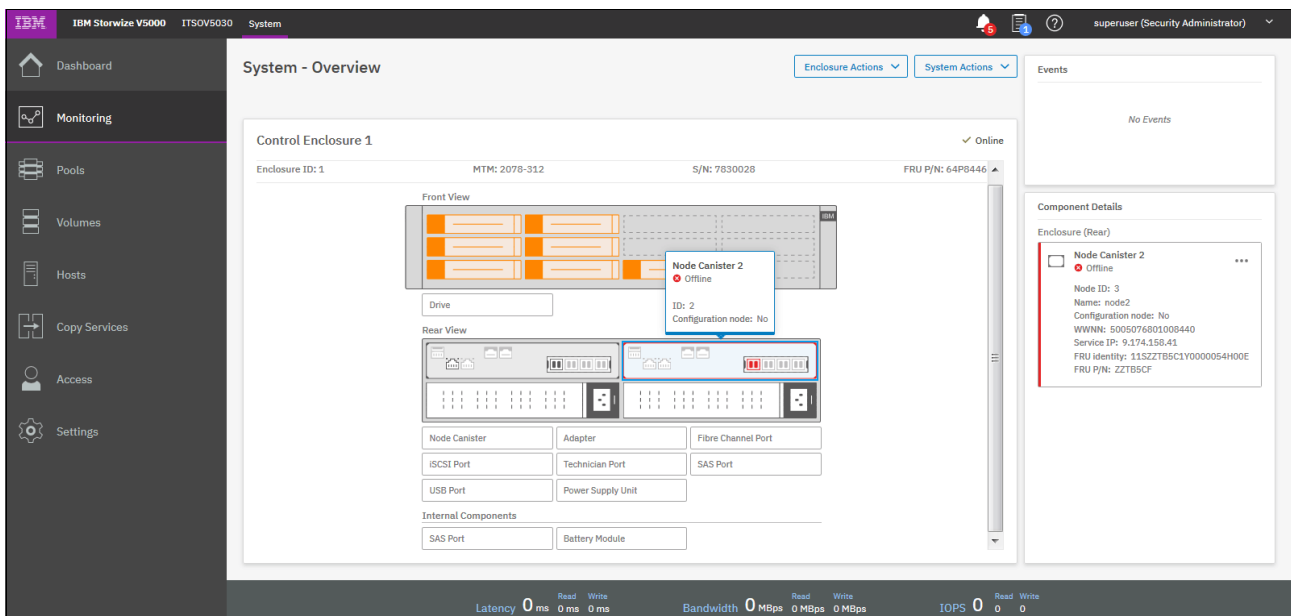

Figure 12-134 Checking the canister state
4. After the node canister is powered off, you can confirm that it is offline in the System window, as shown in Figure 12-134.